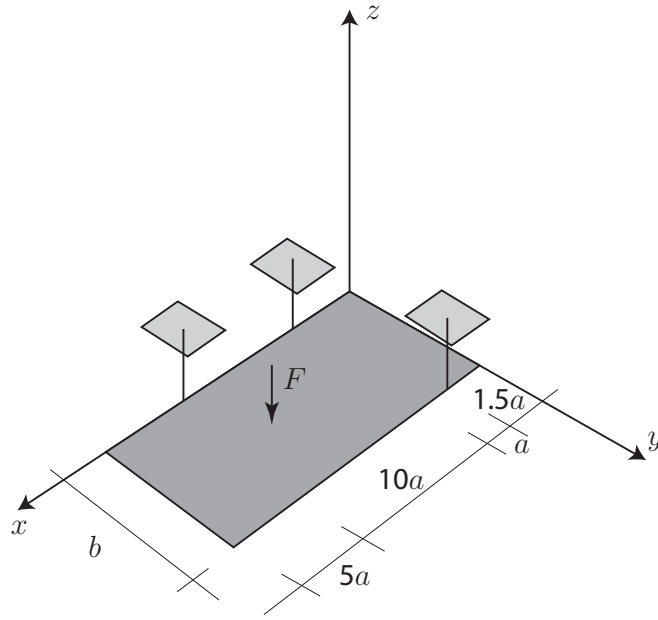

Figure 6: Problem 6.
6. A massless plate of dimensions $b \times 17.5a$ is suspended by three vertical wires and is in static equilibrium; see Fig. 6. Find the location where the force F needs to be applied in order for the wires to all carry the same load.